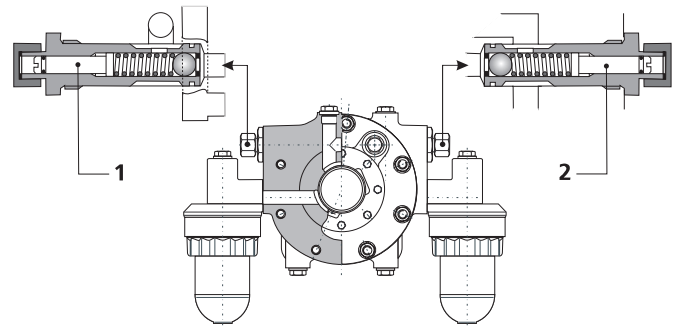

Fig. 4.3-2
- ☐ Install the control pressure regulator with a new aluminium ring on the right-hand side of the pump. Fig. 4.3-2